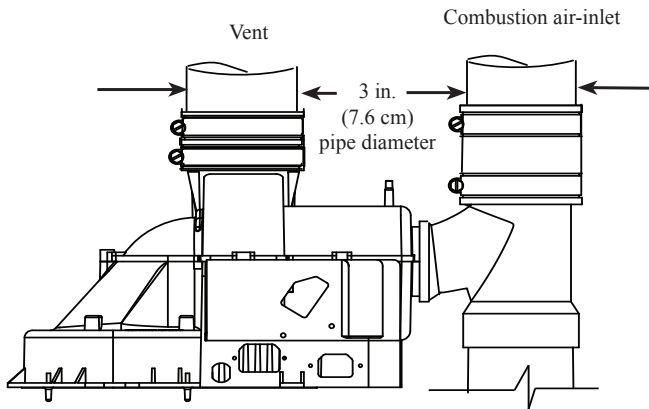

Figure 3
2. Connect the combustion air-inlet system piping to the combustion air-inlet piping tee using the 3 in. (7.6 cm) already installed rubber coupling and clamps (See Figure 3).
3. For vent and combustion air-inlet terminals, use the two (2), 3 in. (7.6 cm) diameter, Schedule 40, PVC, 90°, 1/4 standard bend elbows supplied with the water heater.